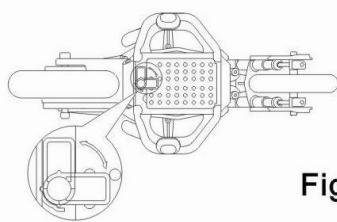

Fig4
1. Headstand the body, rotate the battery cover press button outside the battery cover, remove the battery cover. (Figure 4)